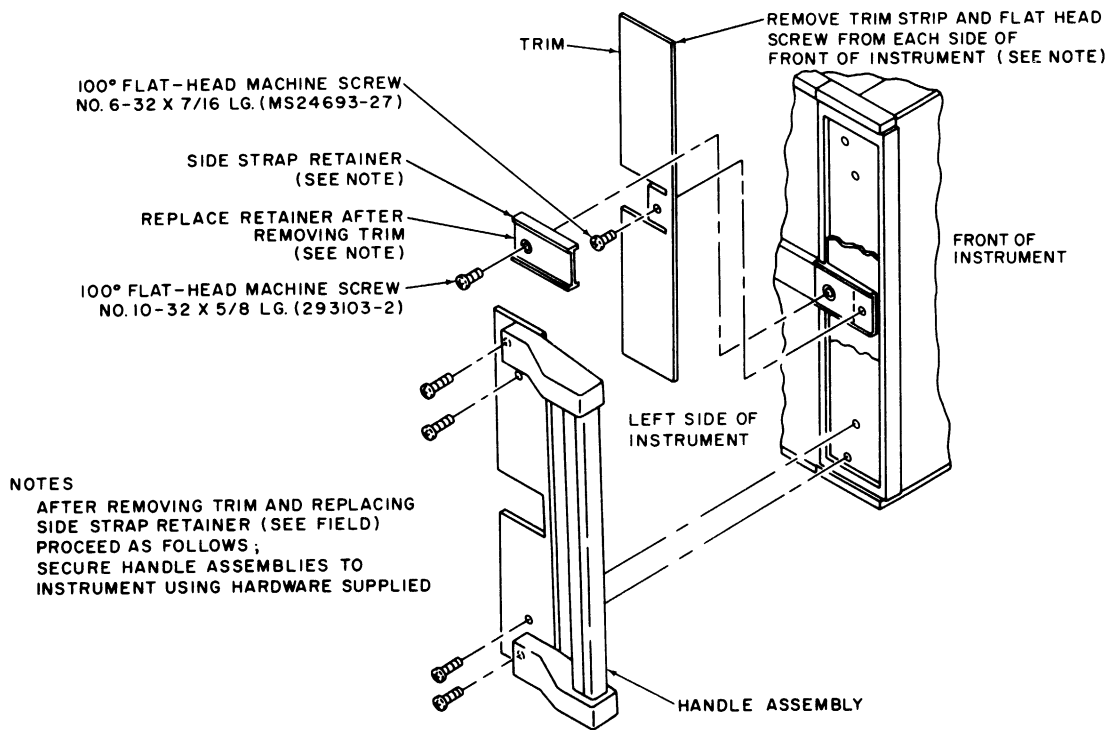

Figure 2-2. Front Handles
- a. Front Handles. (See Figure 2-2).